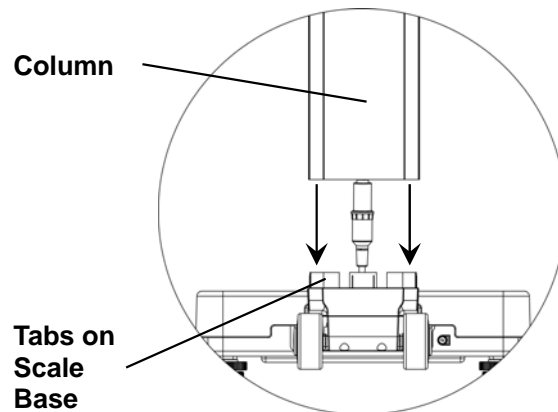

Figure No. 13
**NOTE!** Center the cable in the column (as shown in Figure No. 13) when placing the column over the tabs on the scale base.